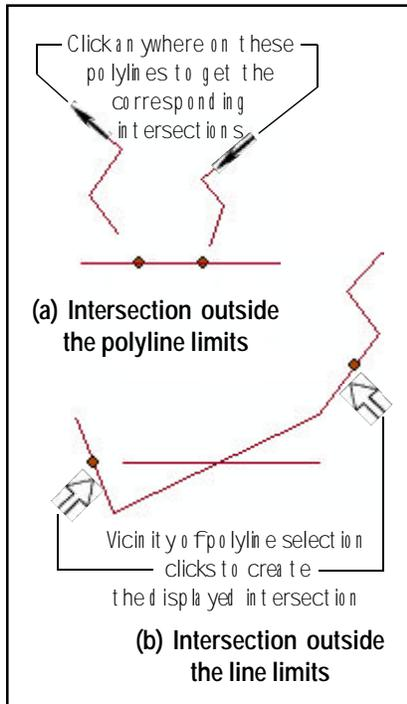

Figure 7
Shown in Figure 7 are four potential polyline-line intersection conditions that could arise.
In the top of Figure 7, there are two conditions of a line being intersected by two polylines, neither of which crosses the line. The left polyline progresses to the top and left (NW) and away from the line, while the right polyline progresses to the SW and towards the line. The indicated corresponding intersections will be created regardless of where the click on either polyline is made to select such polyline.
In the bottom of Figure 7, a polyline crosses a line, and then doubles back to the left and up from the left endpoint of the line. The same polyline extends to the right and up from the right endpoint of the line, and continues to the right and up.